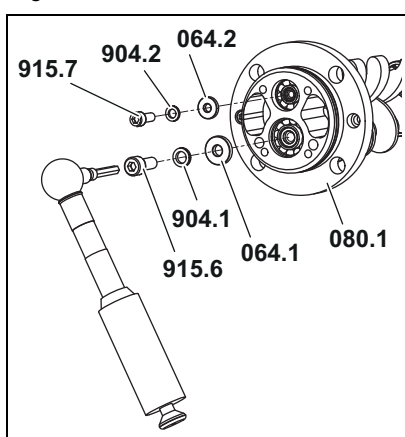

Fig. 14
3. Screw out the socket screw **915.6** with wedge lock washer **904.1** and supporting ring **064.1** from the measuring screw large **672.1**, see Fig. 14, page 34.
4. Screw out the socket screw **915.7** with wedge lock washer **904.2** and supporting ring **064.2** from the measuring screw small **672.2**, see Fig. 14, page 34.